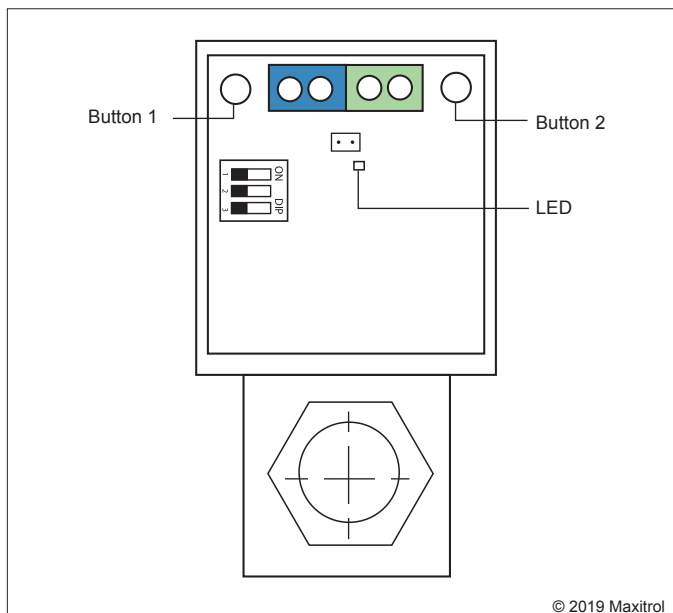

Figure 4: EXA Modulating Valve Series Adjustment Controls
The valve has two (2) buttons and a communication LED for the user interface. The buttons are used to set high and low fire settings (see figure 4, page 4).
The EXA STAR modulating valve series has two (2) buttons and a communication LED for the user interface. The buttons are used to set the valve for high and low fire settings (see figure 4).